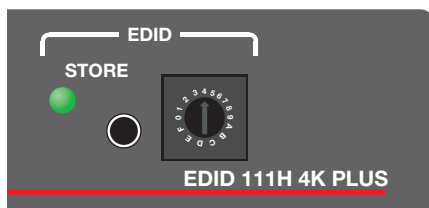

Figure 5. Store LED, Button and Rotary Switch
EDID Minder ensures that a connected source has access to the EDID of a display even if the display is not connected. Depending on the EDID mode selected, the EDID of a connected display or custom EDID can be stored in one of four user slots, or the user can manually select an EDID from the table of Extron factory EDID (see figure 5).
Rotary switch positions 0 through B are Extron factory EDID. Select a switch position corresponding to the desired resolution (see figure 5).
1. Turn the rotary switch (see figure 5 on the next page) to the desired user slot location (C through F).
5. Press the **STORE** button once to store the display EDID to the memory slot selected in step 1. The LED blinks. When the LED returns to solid, the EDID is stored (see figure 5).